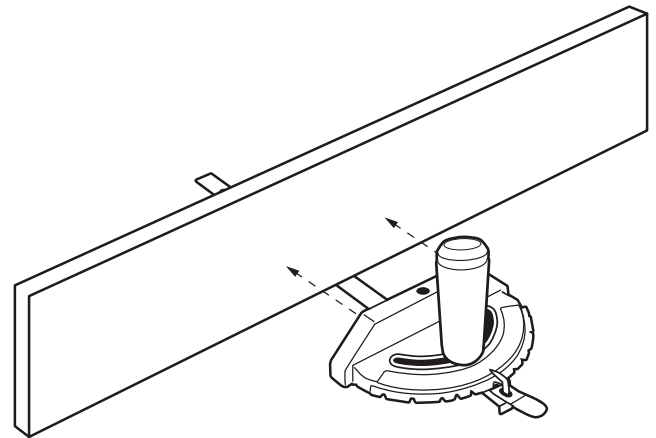

FIGURE 29
This auxiliary wood facing can be fastened to the front of the miter gauge by using (2) M6 or 1/4-20 flat head screws and nuts, placing the nuts into the slots provided in the face of the miter gauge body (Fig. 29).